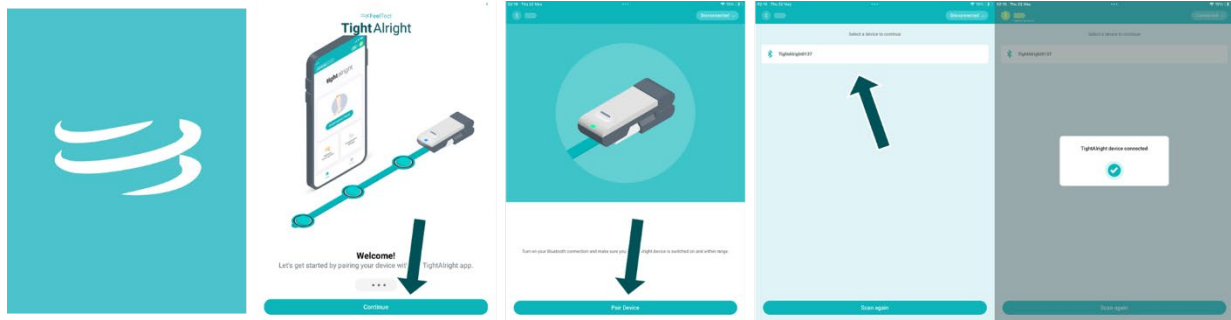

Figure 6. Smart device screen shots showing opening of Mobile App, followed by pairing of the relevant Transmitter Device (see green arrows).
- Open the Tight Alright Software Program (mobile app) on the smart device, press **Continue** to skip the introduction screens, and when the connection screen appears, click **Pair Device**. You'll see a list of available devices for pairing: click on the Tight Alright device that appears, which is named "TightAlright" followed by a serial code, see Figure 6 which is also on a label on the back of the Transmitter Device. This serial code represents a unique identification code (UIC), specific to each Transmitter Device.